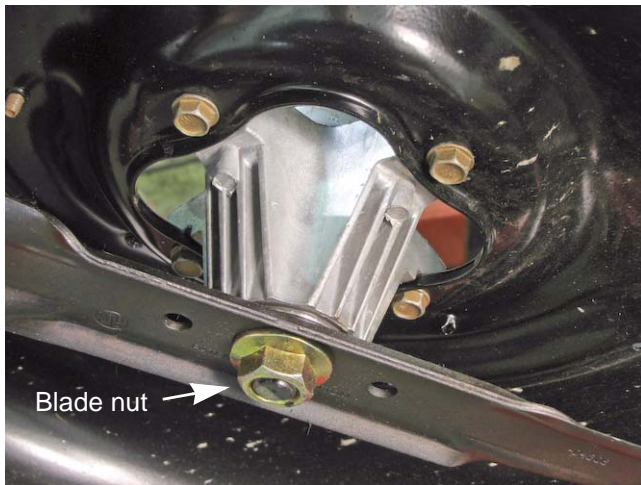

Figure 8.9
2. Remove the blade nuts using an impact wrench and a 15/16" socket. See Figure 8.9.